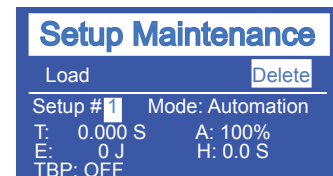

Figure 5-19 Setup Maintenance - 3
3. After selecting YES, press SETUP, and the display will look like Figure 5-19.
4. **Delete** -To delete the setup, select Delete as shown in Figure 5-19, and press the ENTER key. A pop-up screen appears to ask you to confirm your choice.